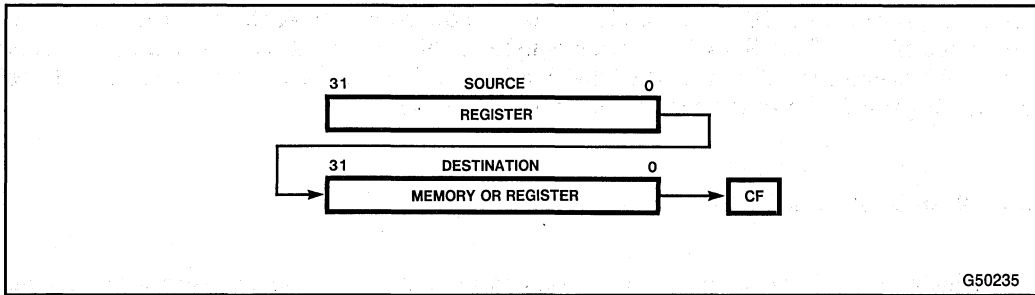

Figure 3-10. SHRD Instruction
**SHRD (Shift Right Double)** shifts bits of the destination operand to the right, while filling empty bit positions with bits shifted out of the source operand (see Figure 3-10). The result is stored back into the destination operand. The source operand is not modified.